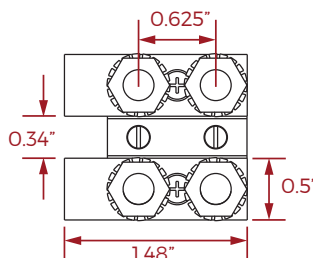

Figure 10. Input Bus Bar Detail
9.2 Input Connections (also Output Connections for LVD). See Figure 10. The DC power inputs to the combination panels are made by means of crimp type lugs or direct connection to 1/4-20 studs to two copper bus bars on side A and side B. The upper bus bar is the battery connection (whether + or -) and the lower bus bar is the return (whether + or -).
Each terminal is a no. 6-32 screw and is rated at 30 amperes. Wire sizes from no. 10 AWG up to no. 22 AWG may be used for connections. Figure 10 below shows detailed spacing of the terminals.
- 11.2 **Power Connections.** Input connections should be made with one- or two-terminal crimp type lugs using copper wire size from no. 1 to 8 AWG, depending on current and wire loop distance. See Sections 9.2 and 9.3. Output connections are made to the barrier terminal strips. See Section 9.4 and Figure 10.